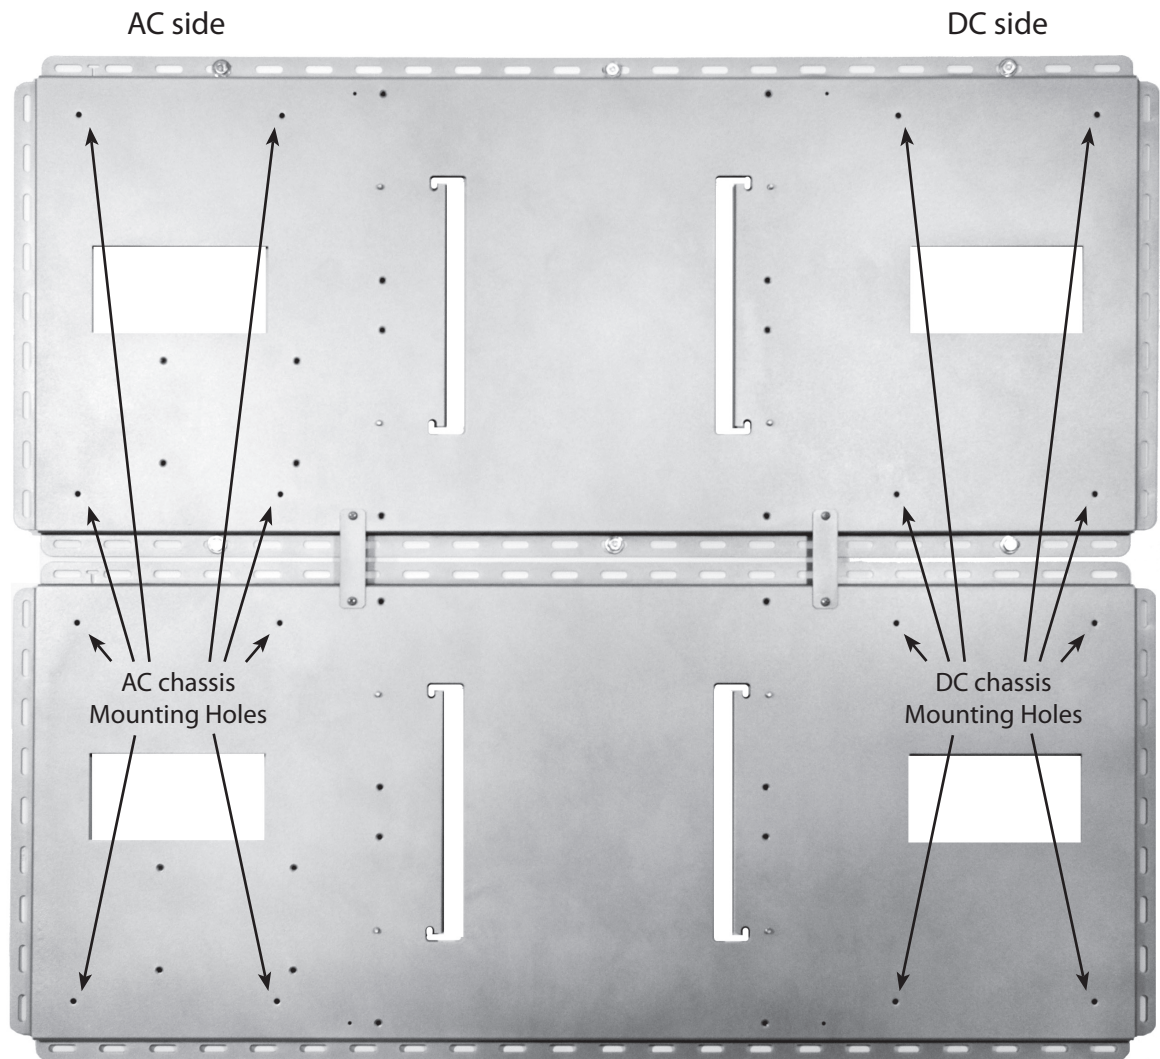

Figure 7: Chassis Mounting Holes
- Place the, M6 X 10mm machine screws through the chassis and into the holes shown in Figure 7 tightening only enough to keep the chassis in place.